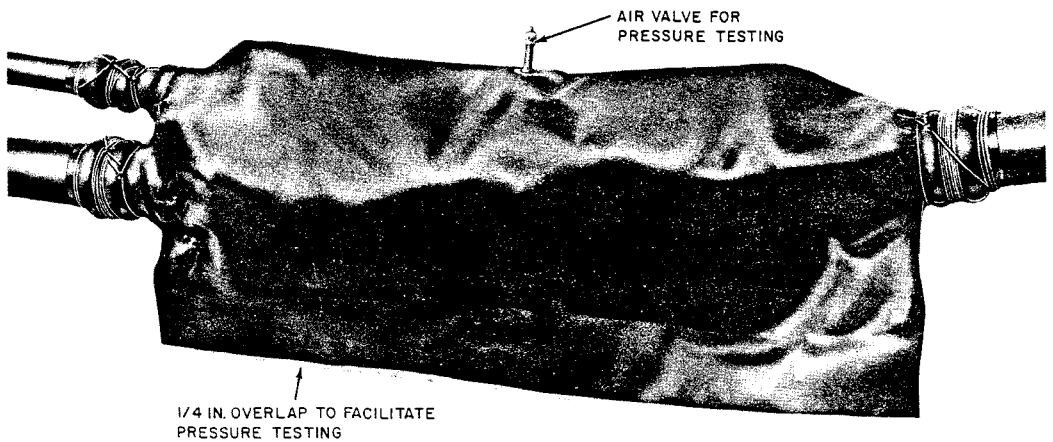

Fig. 22—CR Tape Cover Prepared for Testing
8.04 For the third opening and closing, follow the procedure outlined in paragraphs 7.02 and 7.03. Figure 22 illustrates the CR tape cover installed and prepared for testing.